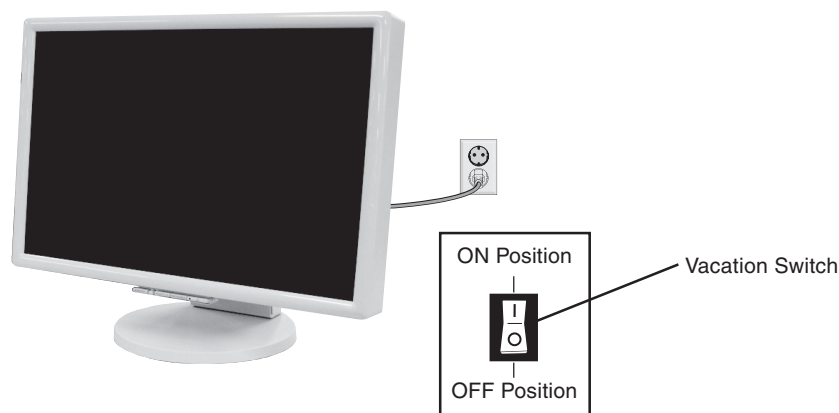

Figure D.1
12. Connect the power cord to the power outlet (Figure D.1).
13. The vacation switch on the back side of the monitor must be turned on (Figure D.1). Turn on the monitor with the front power button and the computer.